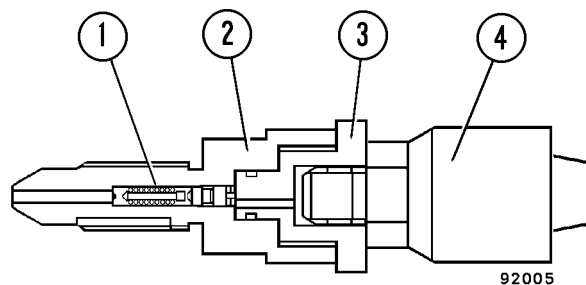
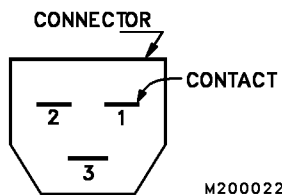

FIGURE 60-11. PRESSURE SENSOR
FIGURE 60-12. SENSOR SIDE CONNECTOR VIEW
2. Hold valve (2, Figure 60-11) with wrench while removing the adapter/sensor assembly (3 & 4).
3. Remove sensor (4) from adapter (3).
1. Install a new O-ring onto sensor (4, Figure 60-11) and install sensor onto adapter (3). Tighten the sensor to **22-29 ft.lbs. (30-39 N.m)** torque.
2. Install a new O-ring onto adapter (3) and install complete adapter/sensor assembly onto valve (2). Hold the valve body and tighten adapter/sensor assembly to **103 ft.lbs. (176 N.m)** torque.
3. Connect the sensor wiring to the truck wiring harness. The sensors have three wires. Be sure that wires are connected correctly. (Figure 60-12)